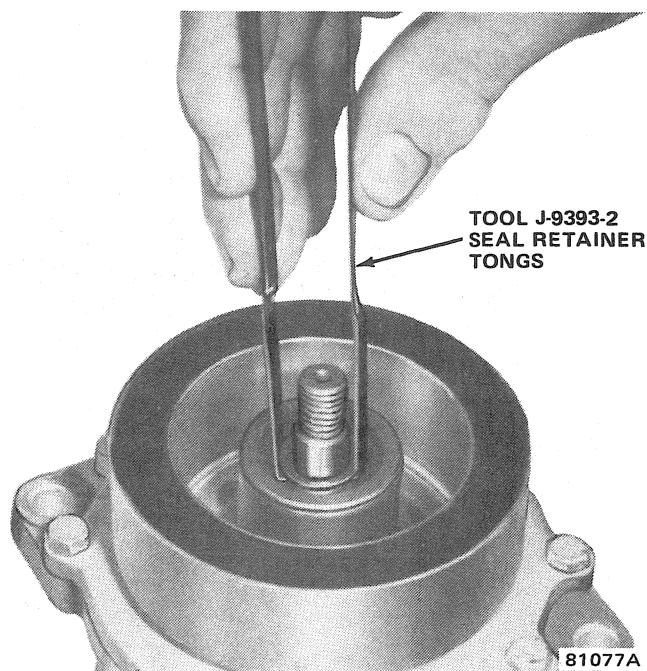

Fig. 3E-28 Removing Shaft Seal Seat Using Tongs
(8) Use O-ring Hook J-9553-01 to remove shaft seal O-ring (fig. 3E-29).